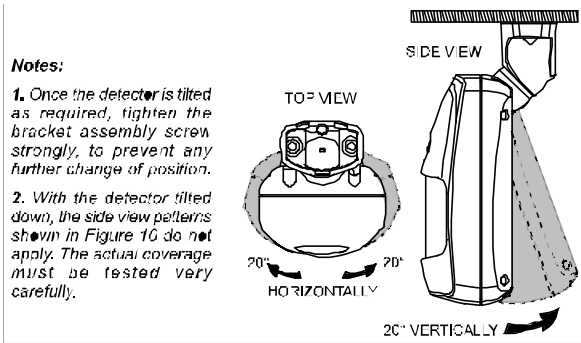

Figure 8. Tilt/Swivel Limits
G. Tilt down or swivel the detector to face the desired direction. Figure 8 shows the tilt/swivel possibilities.